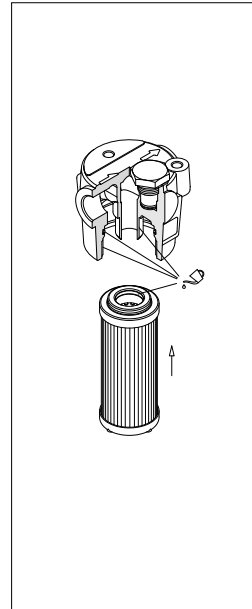

fig. 7
- (Fig. 7) Lubricate with the operating fluid the filter element O-ring, the housing tap, O-ring and cavity, then fit the filter element on the tap. Pay attention not to damage the O-ring seal